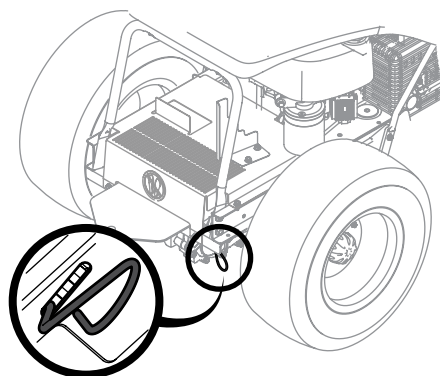

Figure 2-1
1. Engage the transmission bypass rod to move the tractor manually without starting it. The transmission bypass rod is located on the inside of the right tire near the rear of the tractor. Engage the bypass rod by pulling out and down. See Figure 2-1.
2. Disengage the bypass rod by lifting up and allowing the rod to move back in after moving the tractor. See Figure 2-1.